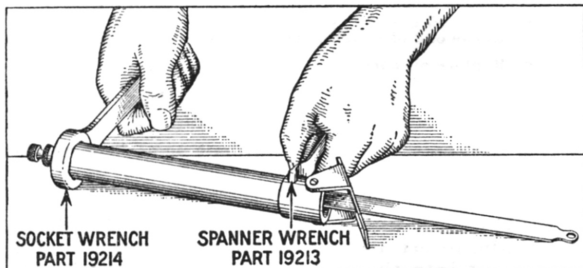

Fig. 5
10. In order to prevent bending of the tube by placing it in a vise, a special spanner wrench, part 19213 and a socket wrench, part 19214, have been made available for removing the cap as shown in Fig. 5.